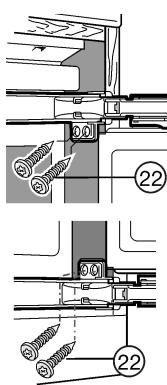

Fig. 16
- ▶ By screwing long Spax screws Fig. 16 (22) through the top and bottom hinge plates.